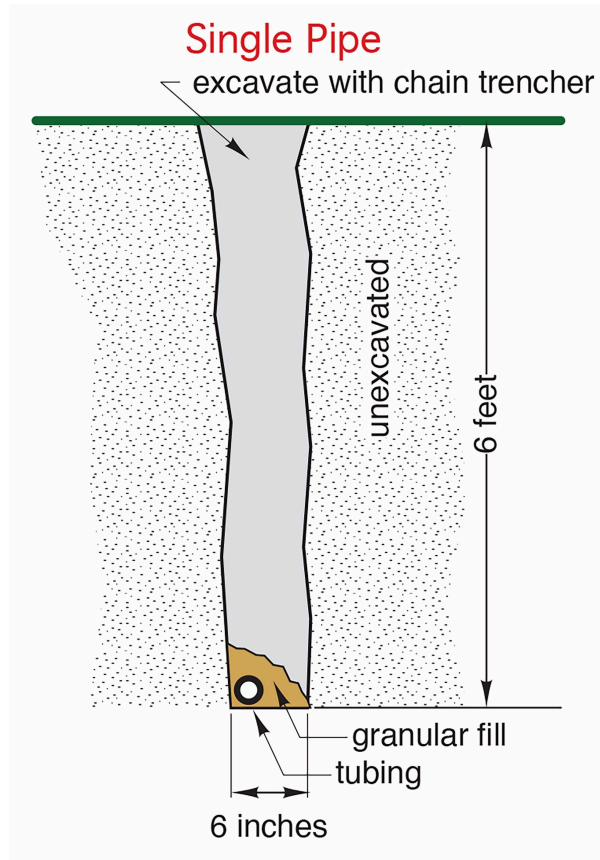

Figure 1 Single pipe in trench
- Figure 1 Heating capacity for a water-to-water heat pump © Caleffi Hydronic Solutions (<https://www.caleffi.com/usa/en-us>). Used with permission.
Figures 1 through 4 below show pipes installed in trenches created either by chain trenchers or backhoe-type excavators. Ground conditions typically determine which of the two are used; if the ground has soils with rocks that are no larger than fist-sized, the chain trenchers can be used. A "Ditch Witch®" is a well-known example of this type of tool. Trenches can be narrow, as shown in Figures 1 and 2, and therefore use less area for the system piping, with up to two pipes per trench. The narrow trench and its spoils will occupy less ground area before backfilling.